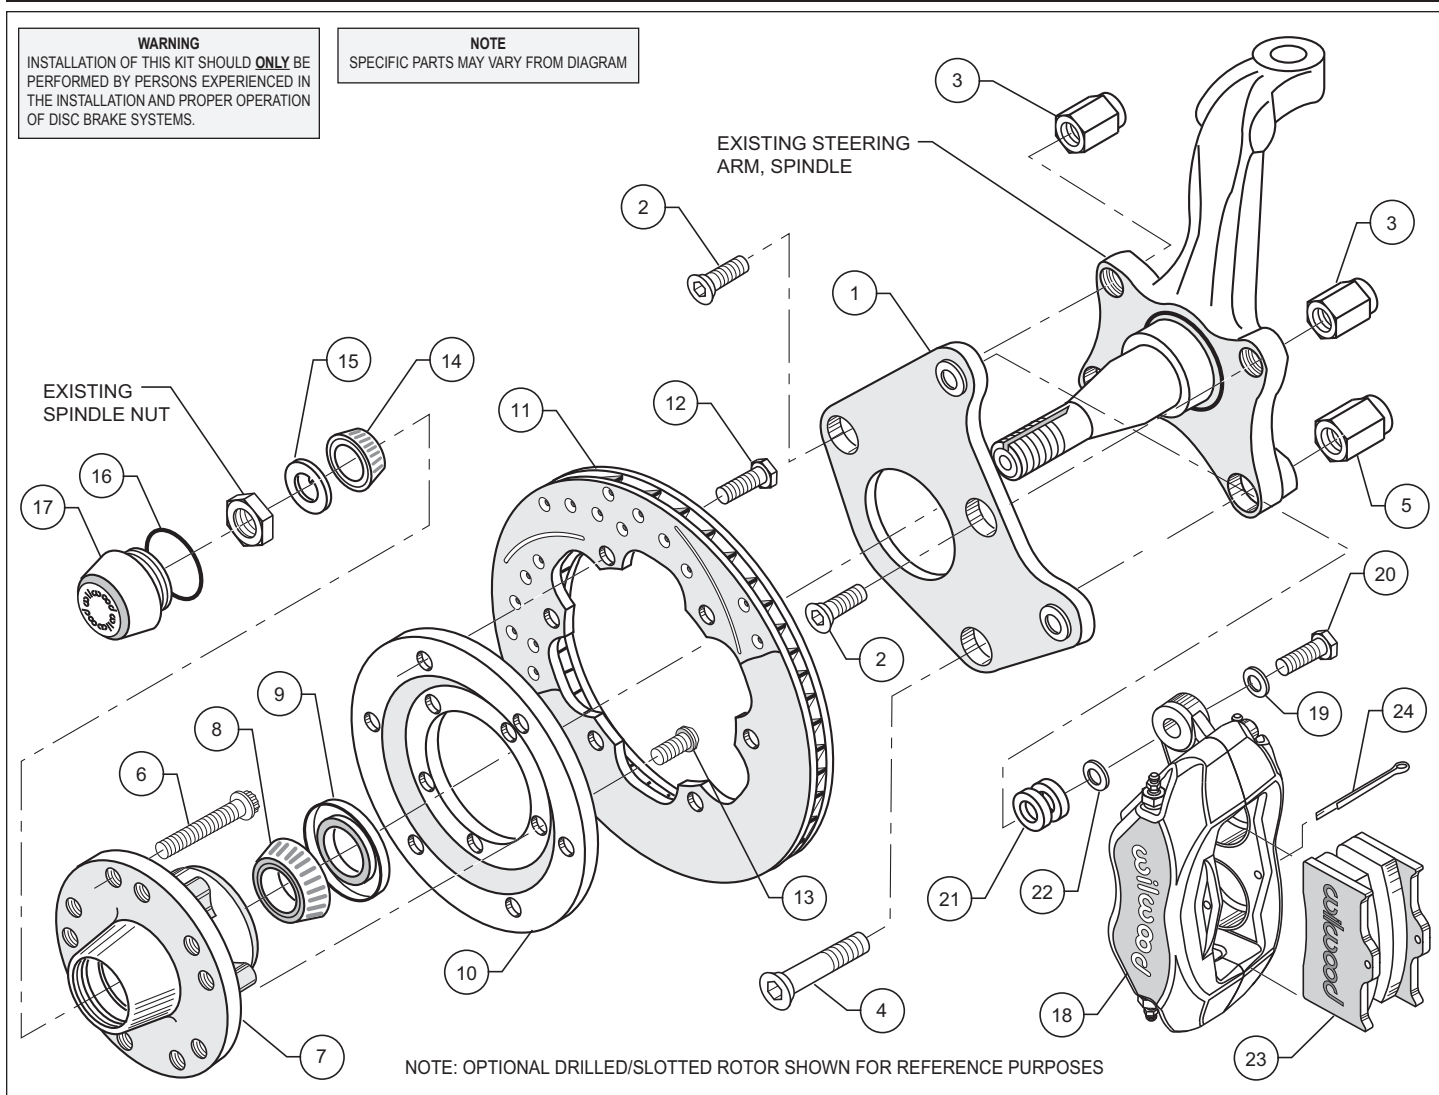

Figure 1. Typical Installation Configuration
- Mount the adapter/rotor assembly (10/11) to the hub (7) using bolts (13) (finger tight), as shown in Figure 1. Using an alternating sequence, remove bolts one at a time, apply red *Loctite*® 271 to the threads, and torque to 55 ft-lb.
- Pack the small outer bearing cone (14) with high temperature disc brake bearing grease. Lightly coat the spindle bearing surfaces with bearing grease. Slide the hub/rotor assembly (7 and 11) with outer bearing cone (14) onto the spindle. Secure using spindle washer (15), existing adjusting nut and nut locking device.